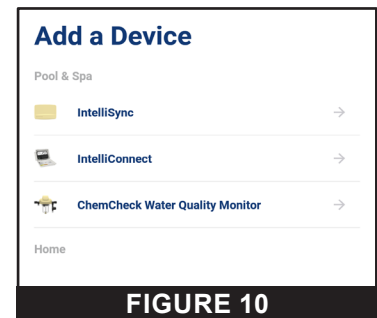

FIGURE 10
- The Add a Device screen will display (FIGURE 10). Press INTELLICONNECT.